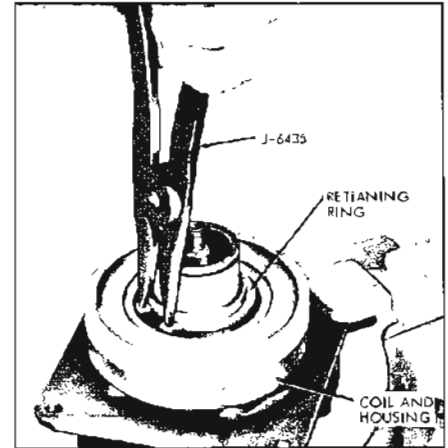

Figure 11-109—Removing or Installing Coil and Housing Retainer Ring
4. Use J-6435, No. 26 Truarc Pliers and remove coil and housing retainer ring, then remove coil and housing assembly. See Figure 11-109.